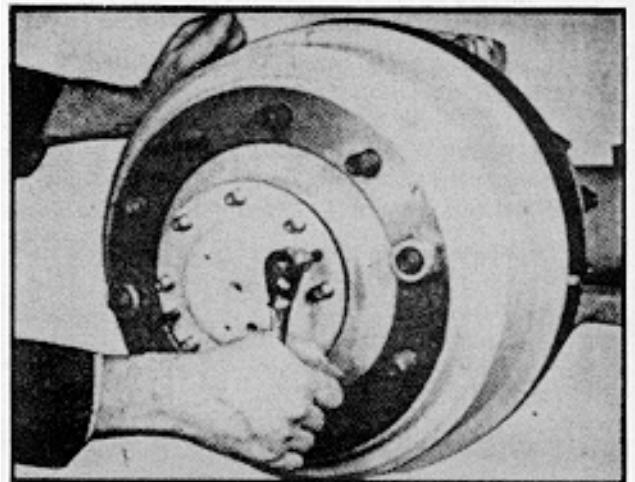

Fig. 15
6. The flange should be loose enough to remove by hand. If not, use suitable bolts in the extractor holes to remove the outer axle shaft. (See fig. 15)
6. The flange should be loose enough to remove by hand. If not, use suitable bolts in the extractor holes to remove the outer axle shaft. (See fig. 15).